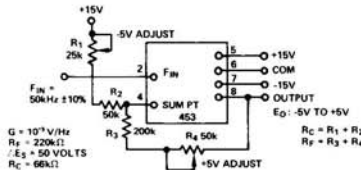

Figure 8. Application of Model 453 in FM Demodulation
**Procedure for Scale Expansion:** The following procedure incorporates both gain and output offset adjustments to achieve scale expansion. An example is illustrated in Figure 8 for an FM signal with a 50kHz carrier frequency and  $\pm 5kHz$  modulating signal.